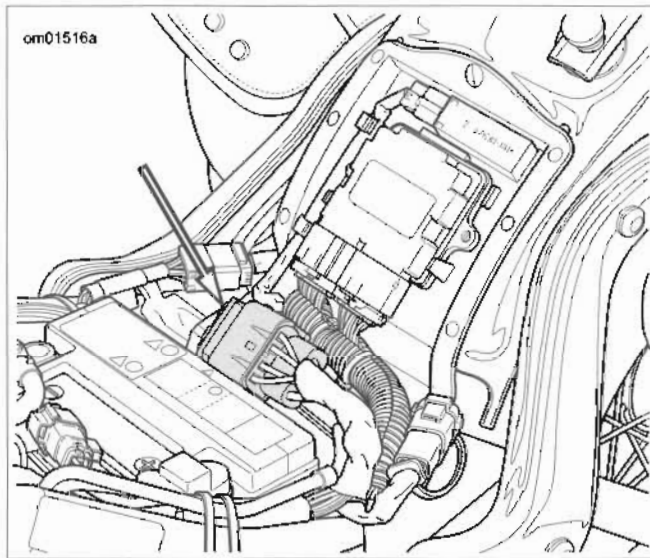

Figure 7-18. Fuse Block Location
2. See Figure 7-18. Pull fuse block away from cover.